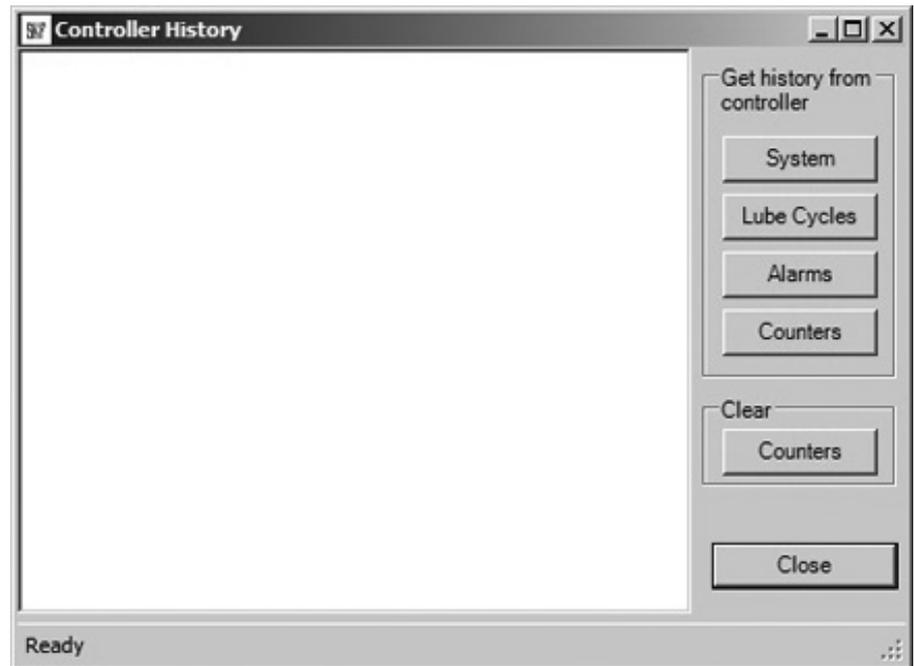

Fig. 15
- 1 From main screen, click **history** button. The **controller history** window will display (fig. 15).